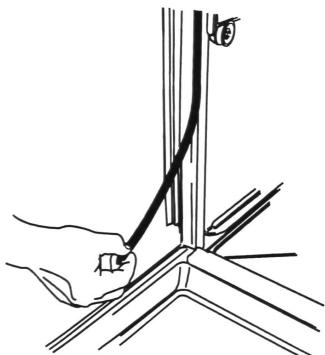

FIGURE 1
1. Remove existing tub seal from channel and wipe seal channel dry. See Figure 1.